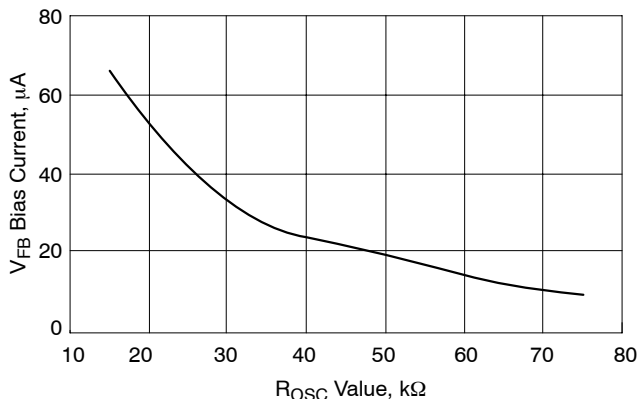

Figure 4. VFB Bias Current vs. Rosc Value
2. The  $V_{\text{FB}}$  Bias Current changes with the value of  $R_{\text{OSC}}$  per Figure 4.
To set the no–load positioning a resistor (R9) is placed between the output voltage and  $V_{FB}$  pin. The  $V_{FB}$  bias current will develop a voltage across the resistor to decrease the output voltage. The  $V_{FB}$  bias current is dependent on the value of ROSC. See Figure 4 on the datasheet.